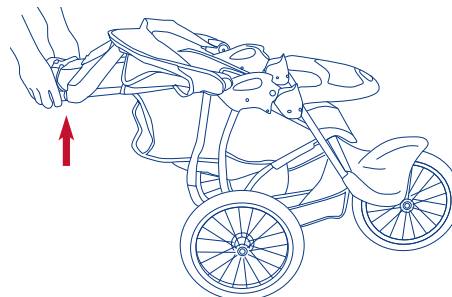

Figure 23.
- Lift up on the stroller handle with both hands until the stroller frame is erect and locked in the open position. See figure 23. The stroller has spring-loaded latches on both sides of the frame. Test that both latches are fully engaged prior to placing your child in the stroller.